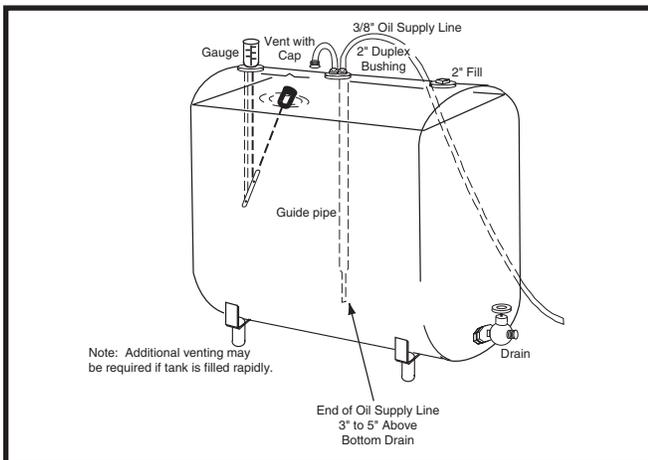

Figure 13. Recommended Tank Hook-Up
1. Use 3/8" O.D. copper tubing for the fuel line. Cap the end with tape to keep out dirt while the line is being routed. See Figure 13.